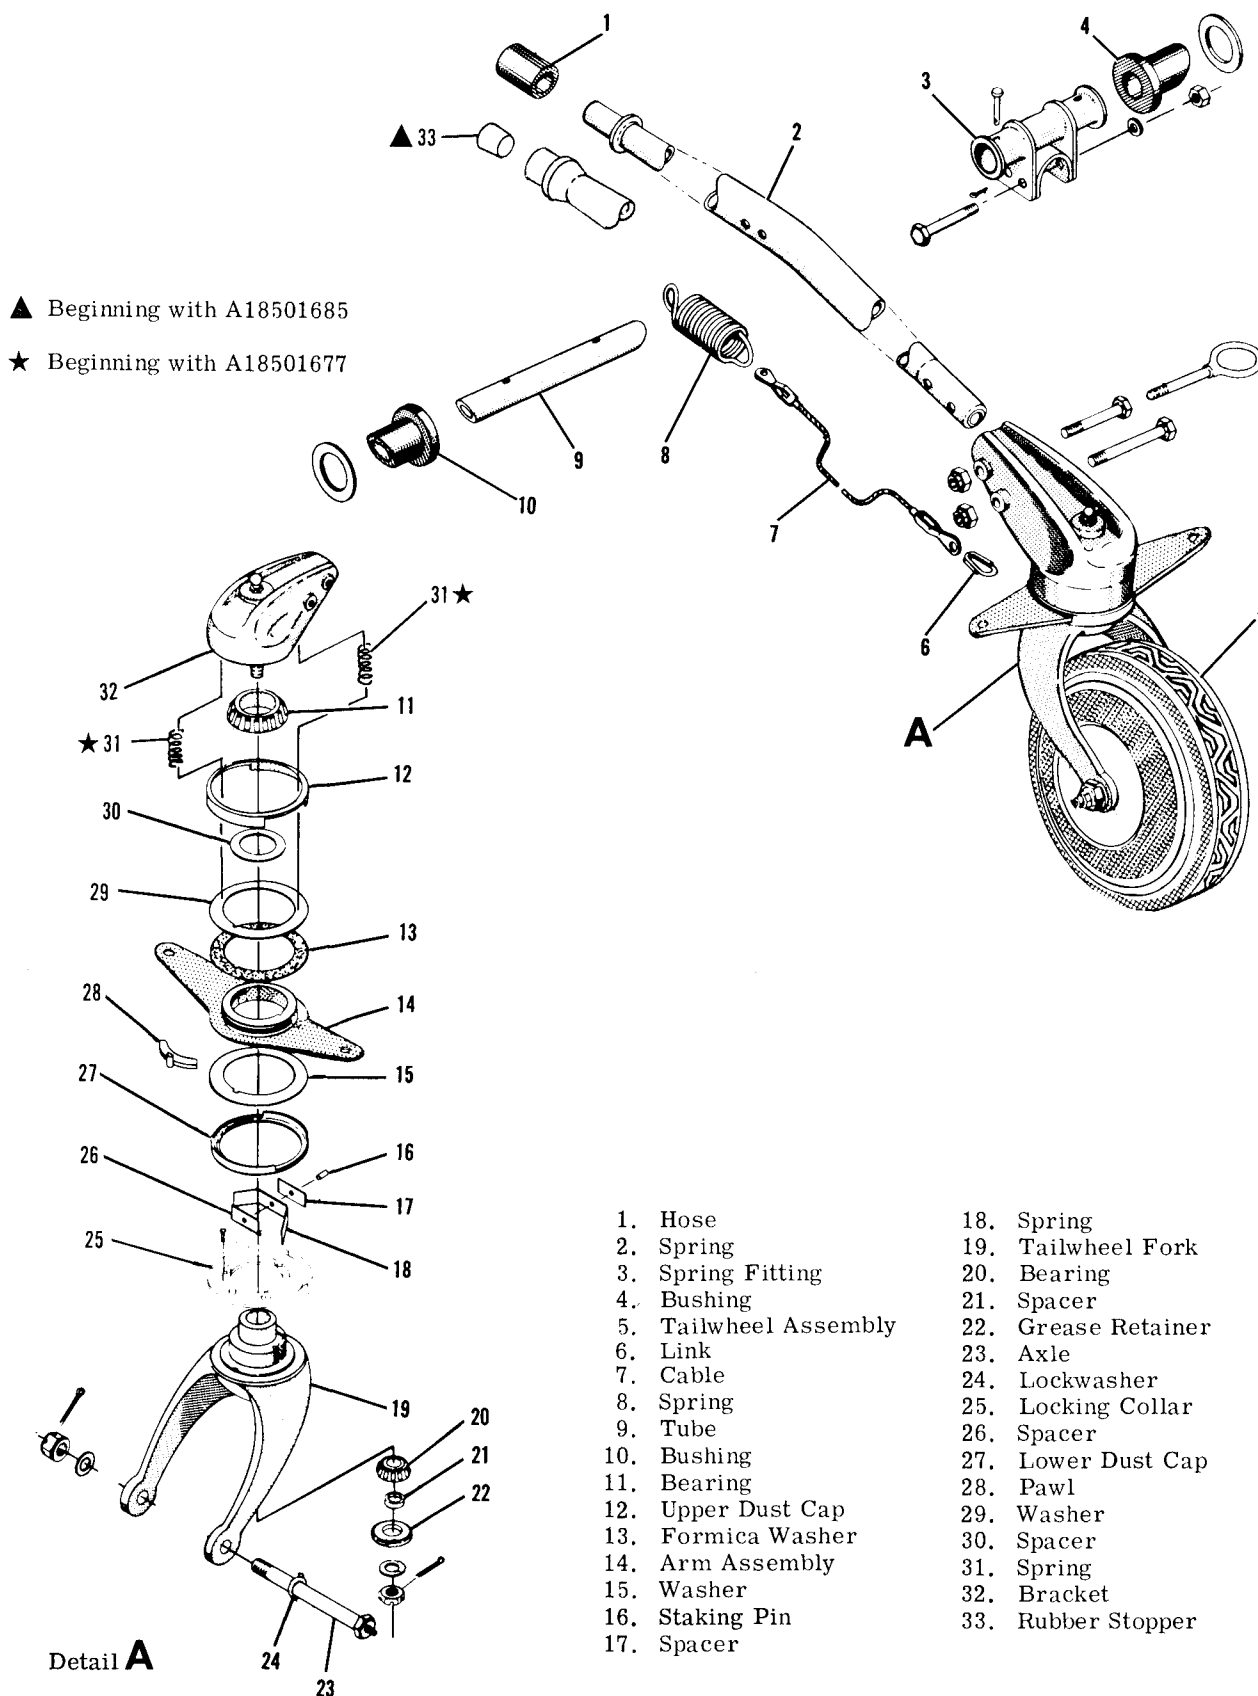

Figure 5-6. Tail Gear
5-34. REMOVAL AND INSTALLATION. (Refer to figure 5-6.)
- When assembling steering mechanism and fork, tighten castellated nut (item 23, figure 5-6) as outlined in paragraph 5-42.
c. Using a spring scale hooked into a steering cable attach hole, measure friction required to pivot tailwheel fork. Force required should be 5 to 6 pounds (approximately 23 to 28 pound-inches of torque). This applies to 8 inch as well as 10 inch tailwheels. Adjustment of friction is provided by the castellated nut shown in figure 5-6, which fastens steering mechanism to fork. Be sure to install cotter pin after adjusting castellated nut.